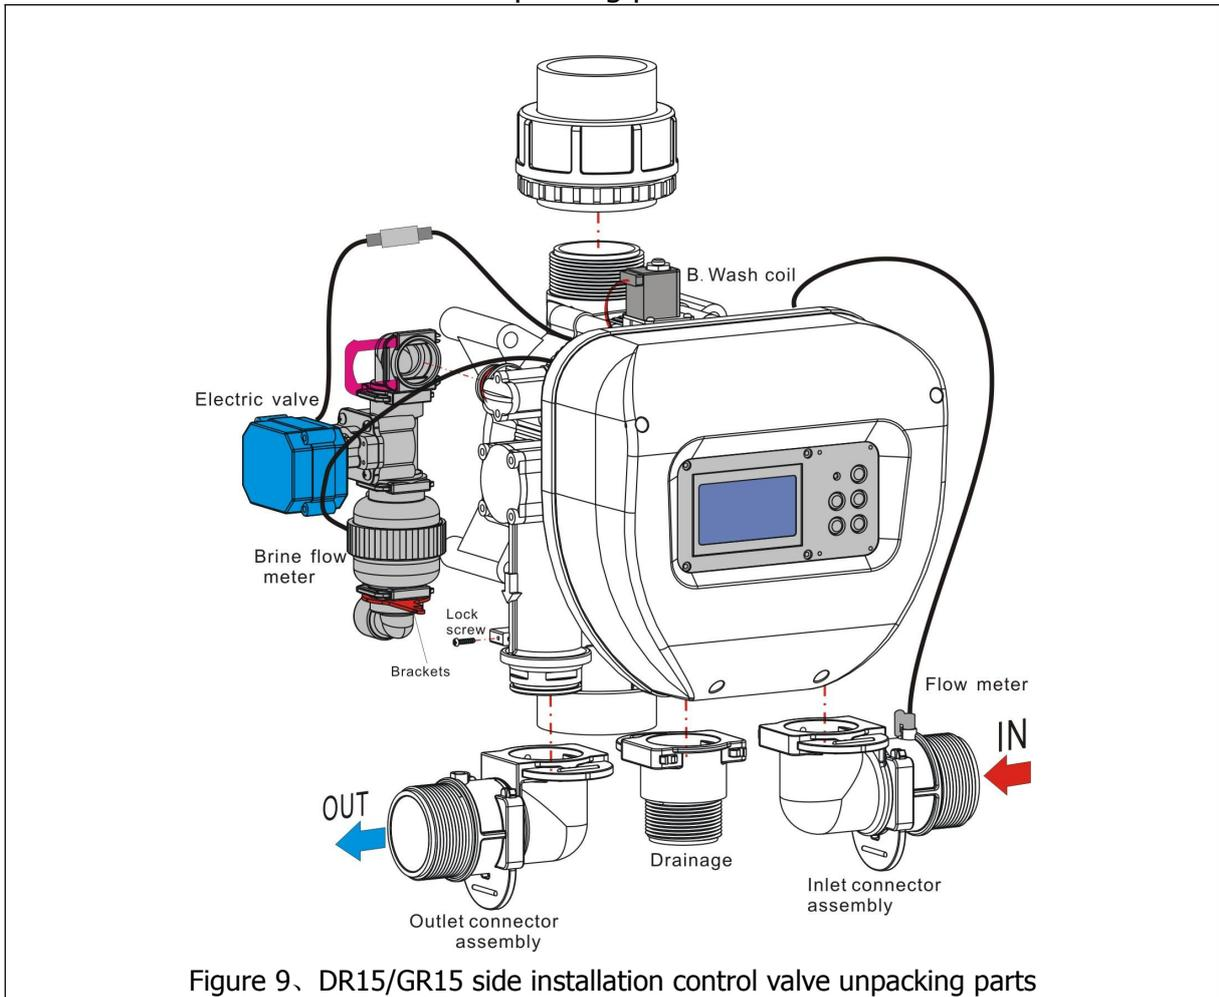

Figure 9、DR15/GR15 side installation control valve unpacking parts
- 5, **“level switch” (figure 9)**: Soften water tank water level switch closing signal input, inlet electric (Solenoid) valve closed, the softener to stop service. (Note! The water level switch receives the closed loop signal, the active voltage cannot be connected!)